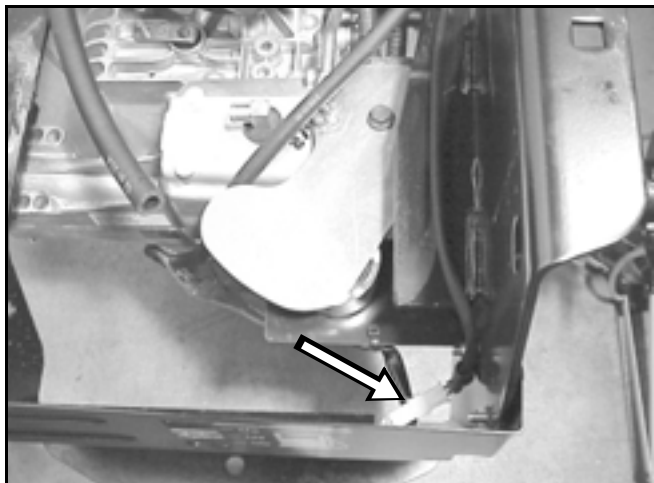

Figure 137
8. Reconnect the wire connector for the magnet (Figure 137).